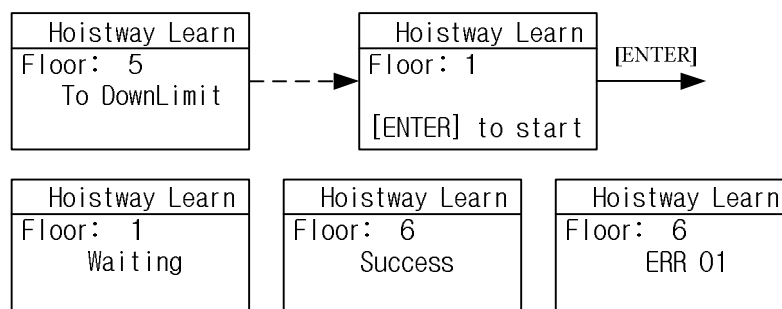

Fig. 7.4 Hoistway self-learning diagram
4. Enter into self-learning menu by LCD indicator, operate according to clew, and refer to Figure 7.4.